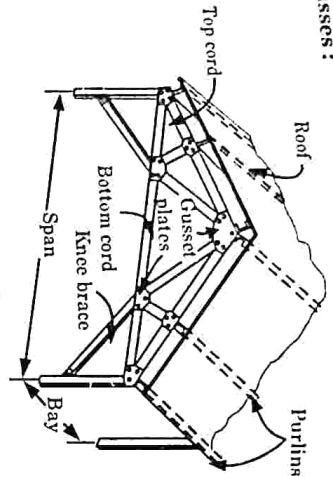

Fig. 2.2.1. Roof truss.
1. Roof trusses are often used as part of an industrial building frame, as shown in Fig. 2.2.1. Here, the roof load is transmitted to the truss at the joints by means of a series of purlins.